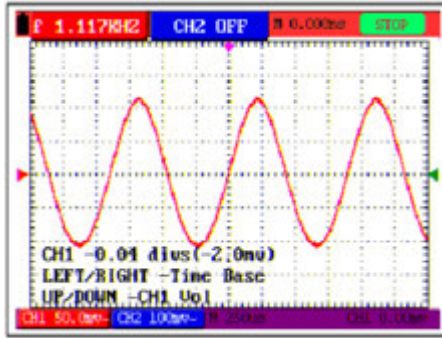

Figure 11.- Freezing the screen.
2. Press the **RUN/STOP** key once more to resume your measurement. (See the following figure 11).